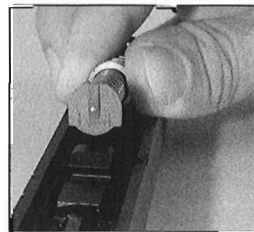

Figure 5
- Look at Figures 5 & 6 carefully.